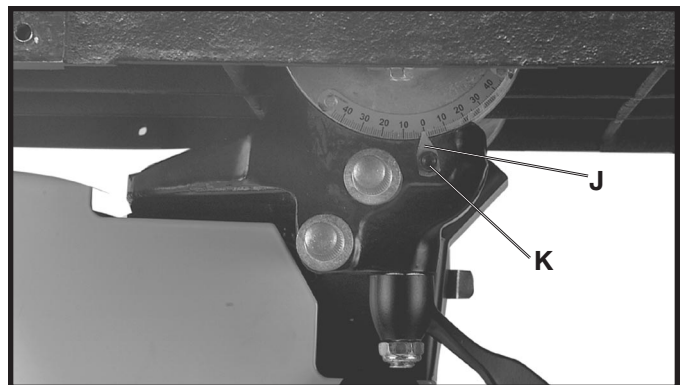

Fig. 47
8. Loosen screw (K) Fig. 47 and move pointer (J) to the "0", and tighten screw (K).
5. The angle can be set by turning the stop screw and checking the angle on the side of the scale with pointer (J) Fig. 47.